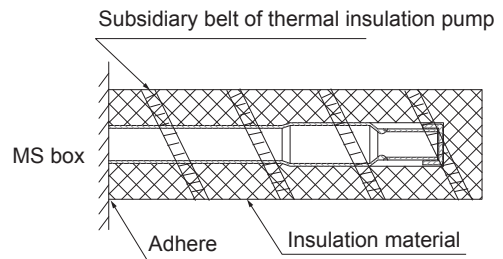

Fig.6-9
4. Insulation tube installation instructions for unused branch ports (indoor unit side) (gas and liquid pipes) (See Fig.6-9) .